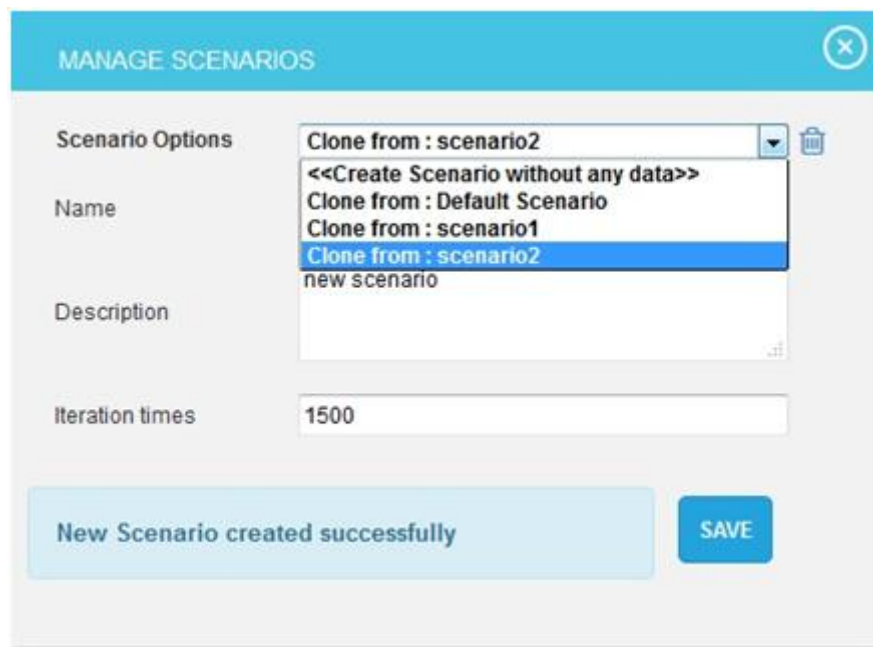

Figure 2.21
Create Scenario Without any data: This helps user to create a new scenario in the same project without any data from the existing scenario. (Figure 2.21)
Clone from: 'Scenario Name': This helps user to create a new scenario in the same project with all the data cloned from any of the existing scenario. (Figure 2.21)
2. Click **Manage Scenarios** button. A pop up appears (Figure 2.21)
3. Select the method to create a new scenario and input the name, description and the Iteration number. (Figure 2.21)
4. Click **SAVE** button to create. (Figure 2.21)
3. Select a scenario name from the combo and click delete icon. (Figure 2.21)